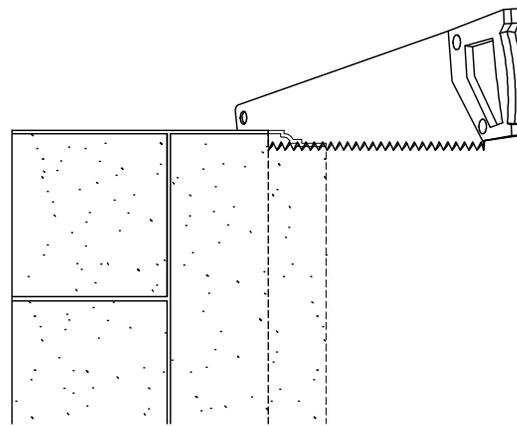

Fig. 1.5
- (a) With a fine toothed hand saw, cut the desired amount off of the bottom of the bottom panel (Fig. 1.5).